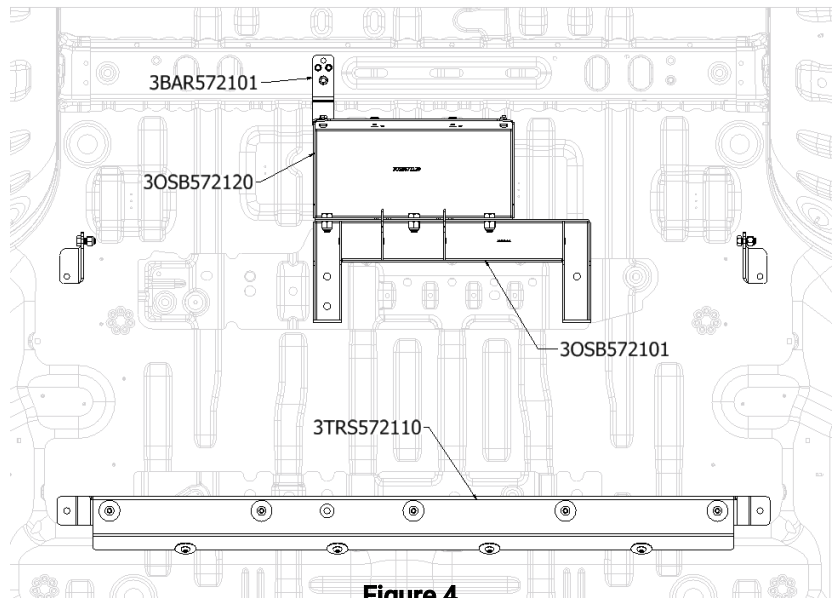

Figure 4
- D. Align the Seat Bracket with (3) of the front holes from the second row seats and install (3) of the OEM bolts that were removed from the seats.
- E. Locate the Center Support Bracket [3OSB572101] with retractor bracket [3OSB572120] and align them as shown in Figure 4 (barrier omitted for clarity).
- F. Ensure the Center Support Bracket is sitting flat on the sheet metal floor pan of the vehicle and then install (3) of the OEM bolts that were removed from the seats.